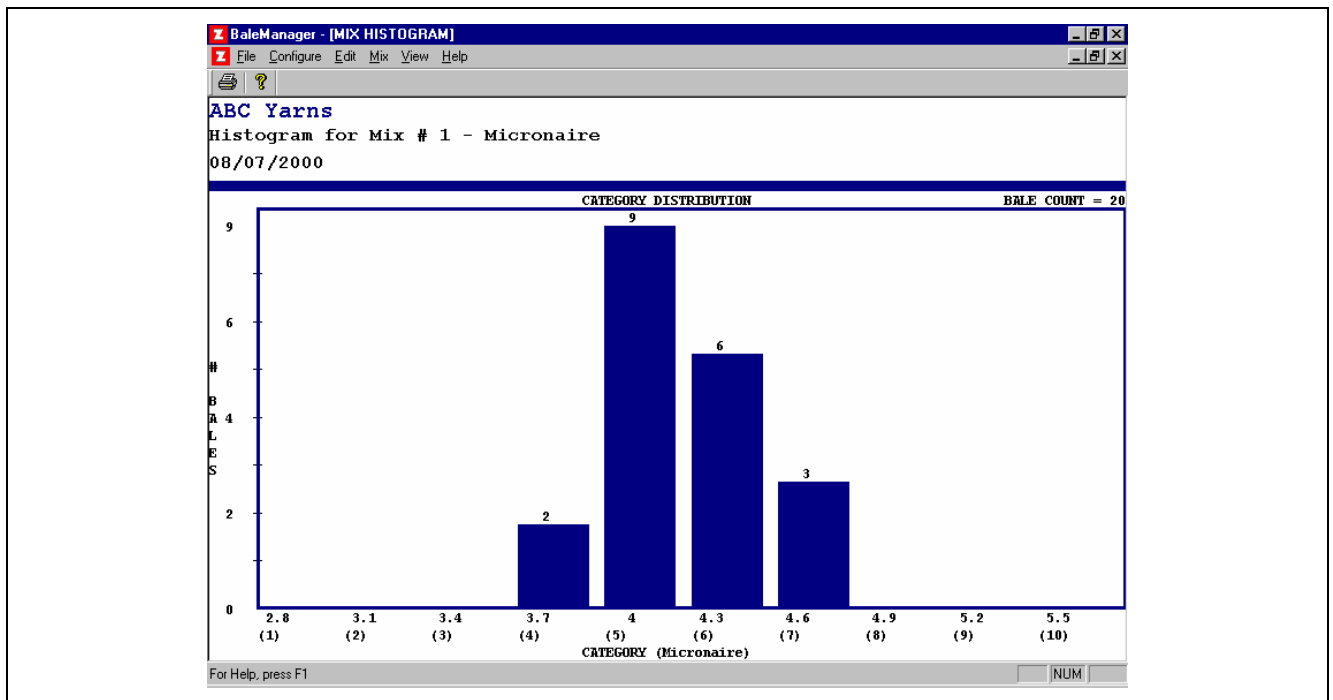

Fig. 6-55 Mix History Histogram, Mix no. 1 - Micronaire
14.3 Select OK and the Micronaire Histogram of Mix no. 1 appears (Fig. 6-55). Exit the window by using the upper right hand corner X.